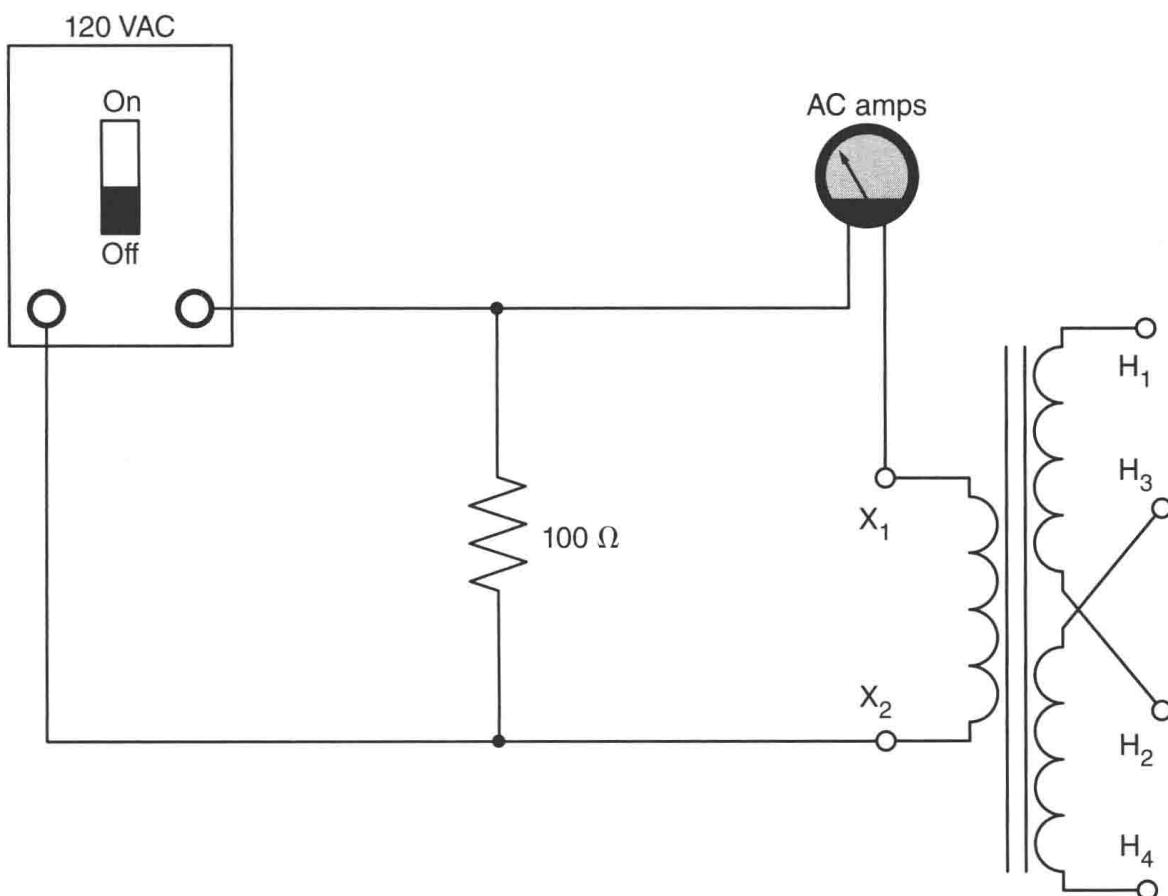

Figure 12-5 Measuring current through the inductive load.
7. Connect the AC ammeter in series with the inductor as shown in Figure 12-5.